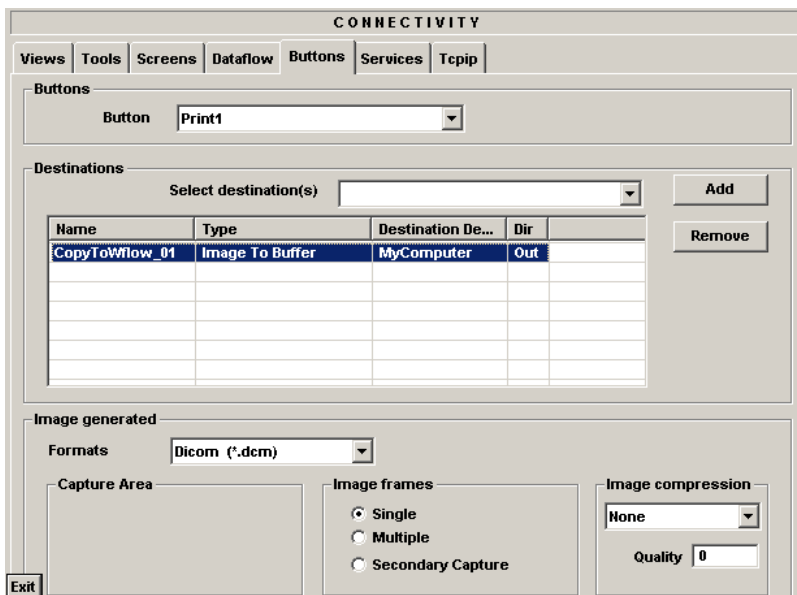

Figure 16-56. Connectivity Buttons Preset Menu
2. In the Destinations section, select a service from the Select destination(s) list (see Figure 16-56).